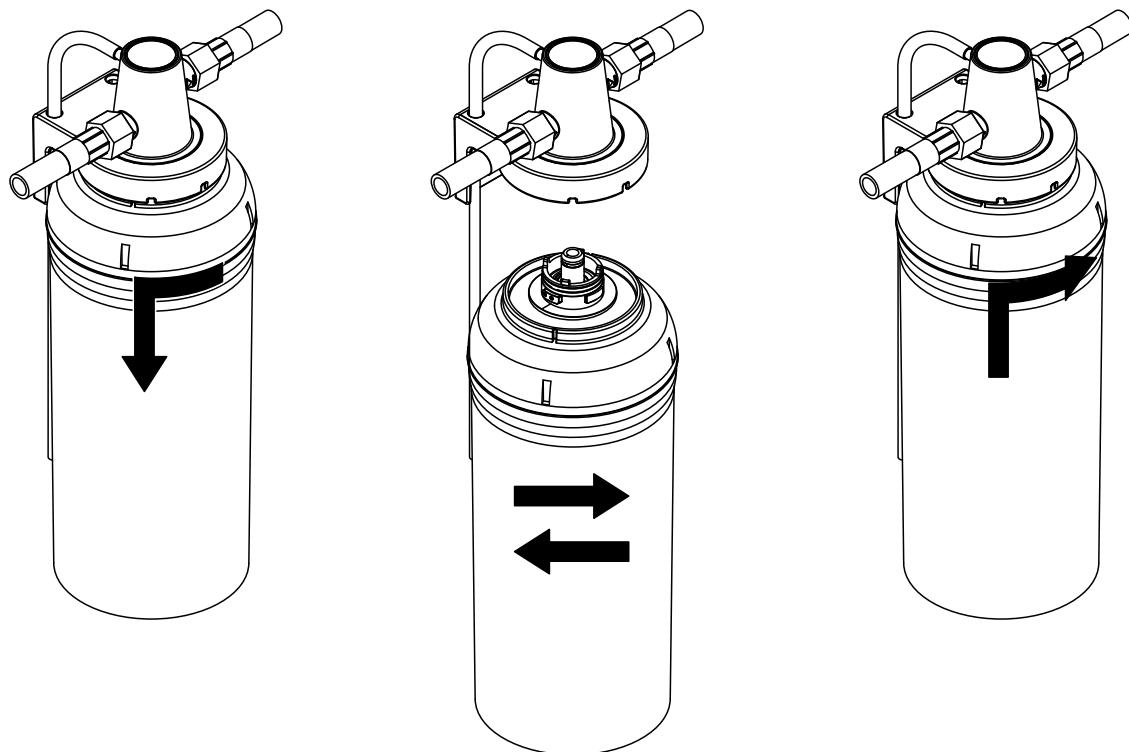

Fig. 19: Replacing the filter cartridge
4. Hold the filter cartridge firmly with both hands on the circumference, so that it does not fall down during removal. Then, carefully turn filter cartridge in the direction of the arrow as shown in Fig. 19 left until it comes to a stop (approx. 45 °) and remove filter cartridge.
7. Simultaneously push filter cartridge upwards and turn it until the filter cartridge engages into the bayonet catch in the filter head. Then, while slightly pushing the filter cartridge upwards turn filter cartridge in the direction of the arrow as shown in Fig. 19 right into the filter head until it comes to a stop (approx. 45 °).